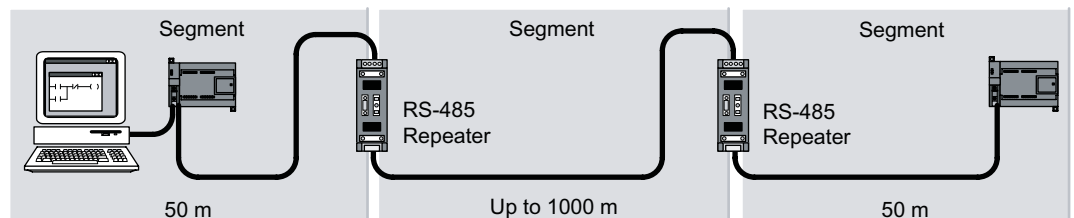

Figure B-2 Sample Network with Repeaters
- To increase the length of a network: Adding a repeater to your network allows you to extend the network another 50 m. If you connect two repeaters with no other nodes in between (as shown in Figure B-2), you can extend the network to the maximum cable length for the baud rate. You can use up to 9 repeaters in series on a network, but the total length of the network must not exceed 9600 m.